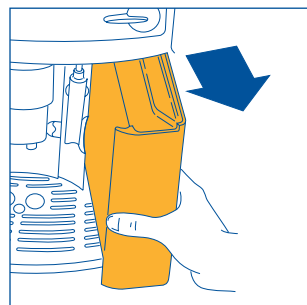

Fig.1
- Remove the water tank (Fig.1), rinse it and fill it with fresh water, never exceeding the MAX line. When removing the tank, the milk frother must always be positioned towards the center of the machine, otherwise the tank cannot be removed.